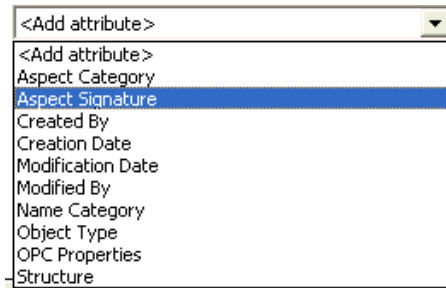

Figure 98. Add Attribute
2. Select the Aspect Signature in the **Add attribute** drop-down menu, see Figure 98.